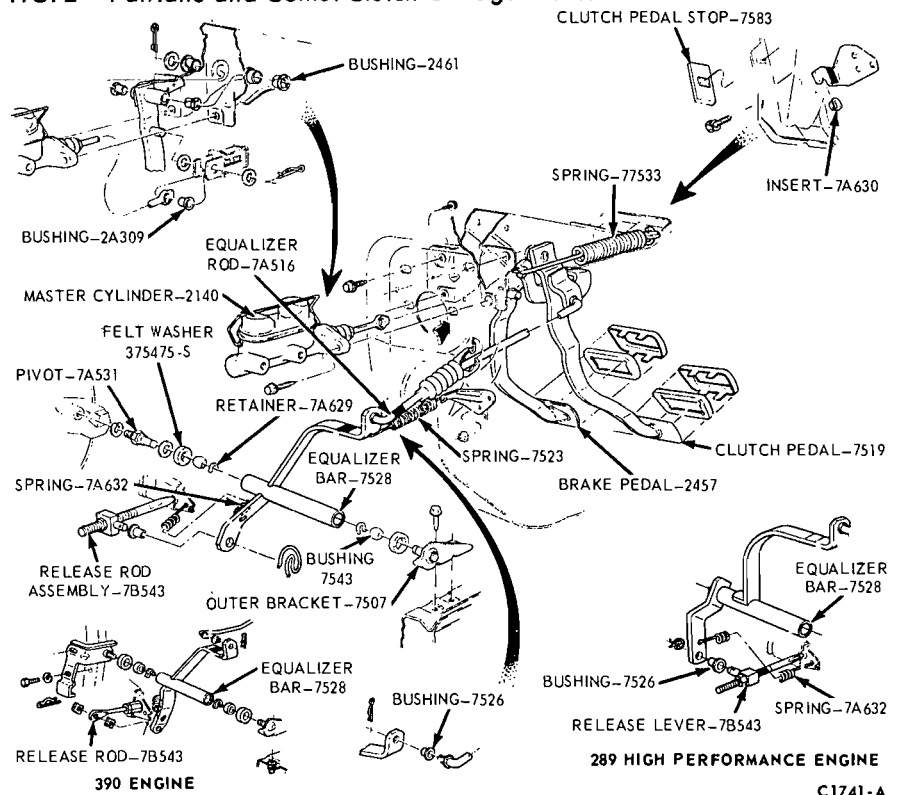

FIG. 3—Mustang and Cougar Clutch Linkage Disassembled
1. Remove the retaining clip (Fig. 3) that secures the equalizer rod to the clutch pedal.